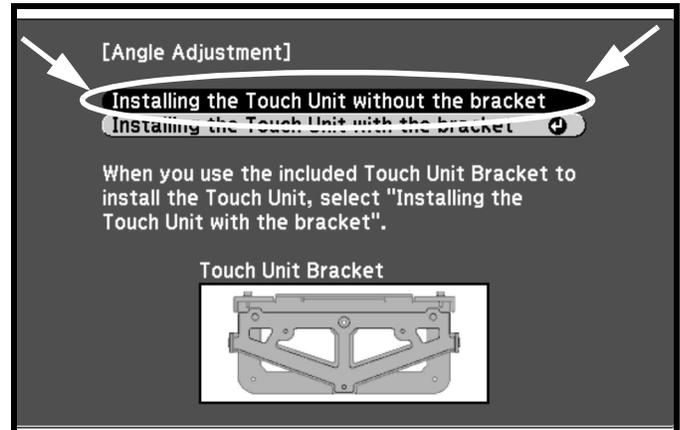

Figure 36
5. Select **Installing the Touch Unit without the bracket**. (See Figure 36)
**NOTE:** The bracket included with the projector (and shown in Figure 36) will **NOT** be used.